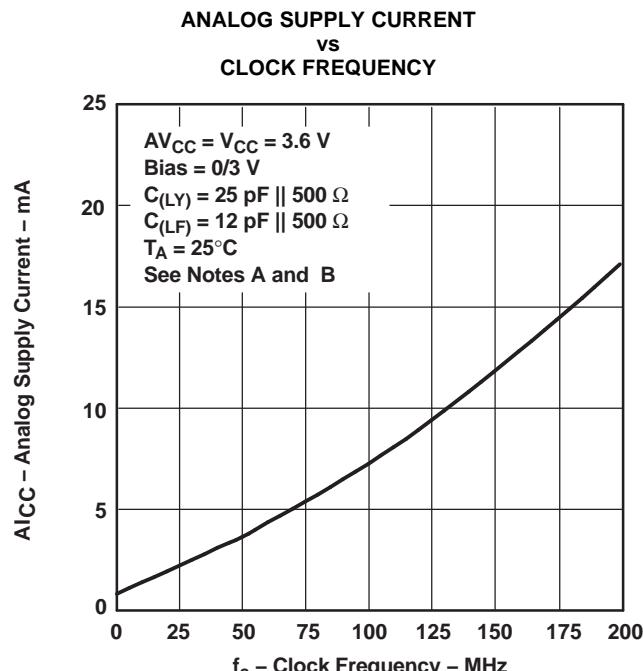
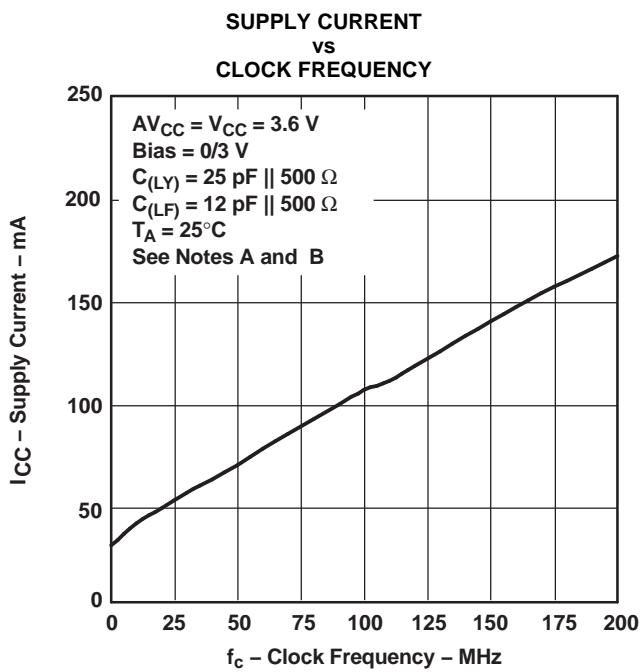

Figure 8.
Figure 9.
(1) For conditions shown as MIN or MAX, use the appropriate value specified under the *recommended operating conditions* section.
(2) For dynamic ICC vs Frequency, see Figure 8 and Figure 9.